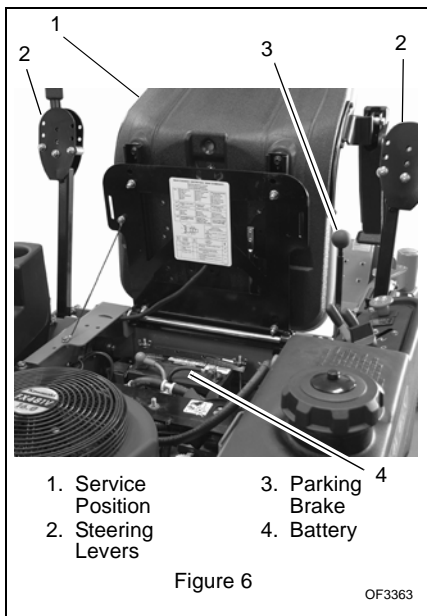

Figure 6
4. Tip seat forward (Figure 6).